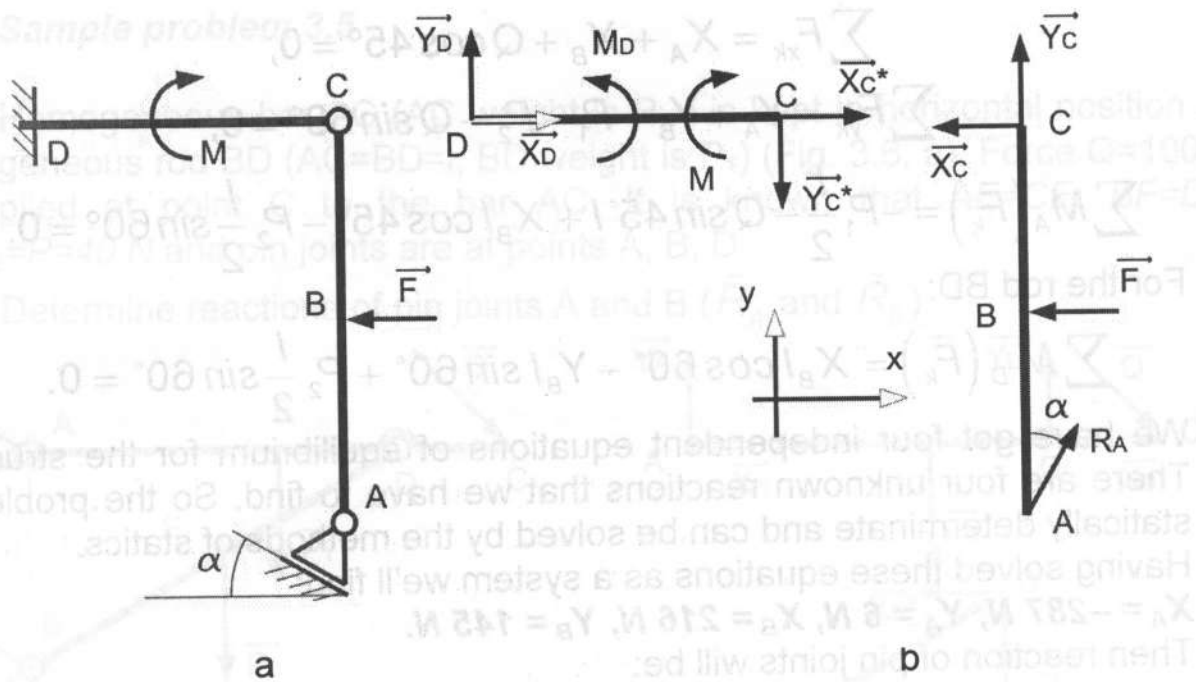

Fig. 3.7
- Form FBD for each part of the system (Fig. 3.7, b). The rod AC is under action of weight  $P_1$ , applied force  $Q$ , reactions  $\vec{X}_A, \vec{Y}_A$  that are caused by pin joint at the point A and reactions  $\vec{X}_D, \vec{Y}_D$  that are caused by pin joint at the point D. The rod BD is under action of weight  $P_2$ , reactions  $\vec{X}_B, \vec{Y}_B$  that are caused by pin joint at the point B, reactions of interaction with separated part AC  $\vec{X}'_D, \vec{Y}'_D$ . Here we note that  $\vec{X}_D = -\vec{X}'_D, \vec{Y}_D = -\vec{Y}'_D$ .
The compound structure is loaded by force  $F=3 \text{ kN}$  and couple with moment  $M=8 \text{ N}\cdot\text{m}$  (Fig. 3.7, a). It is known that  $\alpha = 30^\circ$ ,  $AB=BC=a \text{ (m)}$ .
- Form FBD for each part of the system (Fig. 3.7, b). The rod DC is under action of applied couple with moment  $M$ , reactions  $\vec{X}_D, \vec{Y}_D$  and reactive moment  $M_D$  that are caused by clamped joint at the point D and reactions  $\vec{X}_C, \vec{Y}_C$  that are caused by pin joint at the point C. The rod CA is under action of applied force  $F$ , reaction  $\vec{R}_A$  that is caused by sliding joint at the point A, reactions of interaction with separated part DC  $\vec{X}'_C, \vec{Y}'_C$ . Here we note that  $\vec{X}_C = -\vec{X}'_C, \vec{Y}_C = -\vec{Y}'_C$ .